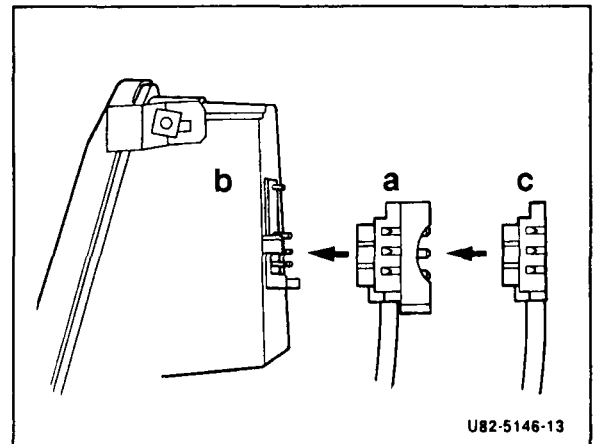

Figure 5
16. To connect the driving lamps, install the combined 6-pin plug/socket (a, Figure 5) in the vehicle and insert between the 4-pin socket on the headlamp assembly (b) and the 4-pin standard production plug (c).